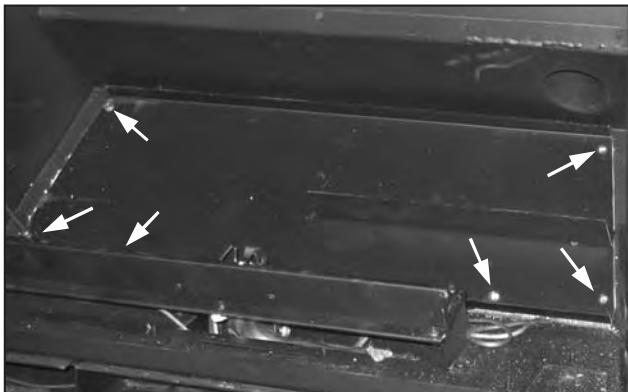
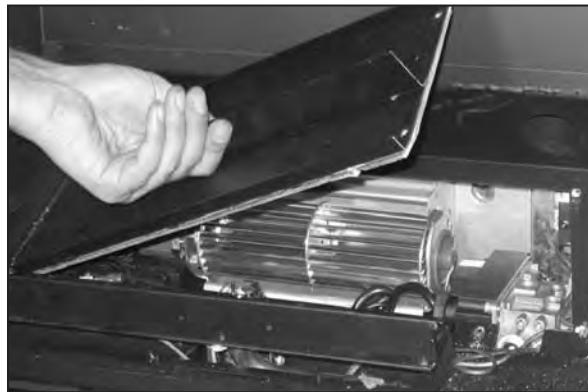

Figure 19: Screws Holding Valve Cover in Place.
Figure 20: Removing Valve Cover.
4. Using a T-20 screwdriver remove the six (6) screws that hold the valve cover in place (pointed out in Figure 19). Pick the valve cover up then out of the firebox (see Figure 20).